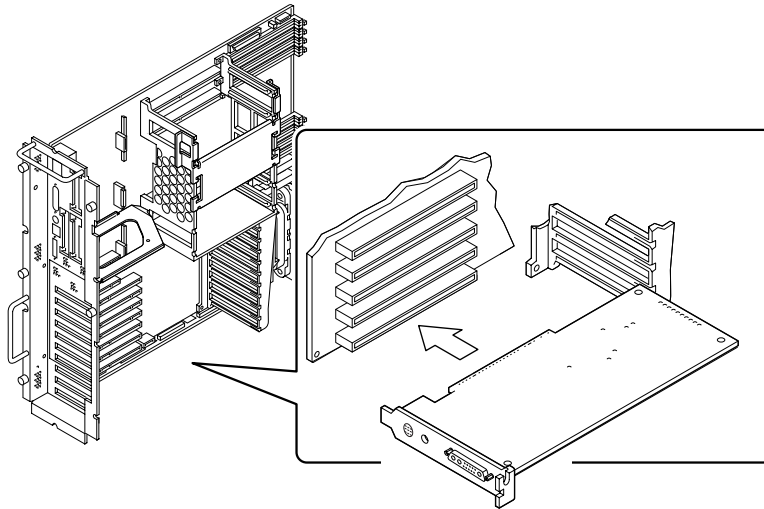

FIGURE 2-6 Installing Sun Expert3D Graphics Card in an Enterprise 450 System
- 4. Insert the Sun Expert3D card into the appropriate slot on the main logic board (FIGURE 2-6).**